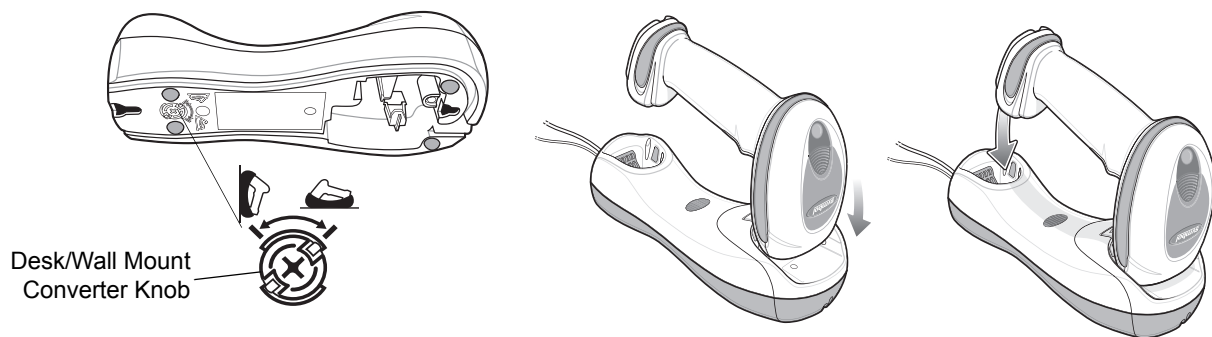

Figure 1-10 Horizontal Mount - Inserting the Digital Scanner in the Cradle
2. Ensure the desk/wall mount converter knob is in the position shown in Figure 1-10.